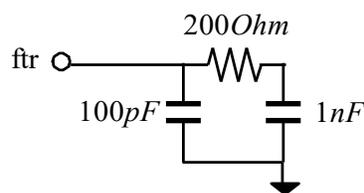

Fig. 2. External Loop Filter
The Clock Recovery Block (CR) contains both a phase and frequency acquisition loop. The frequency loop works in concert with low-speed clock $c32p/c32n$ while the phase loop utilizes data signal dp/dn . The CR requires a single off-chip filter shown in Fig. 2 to be connected to pin ft_r .